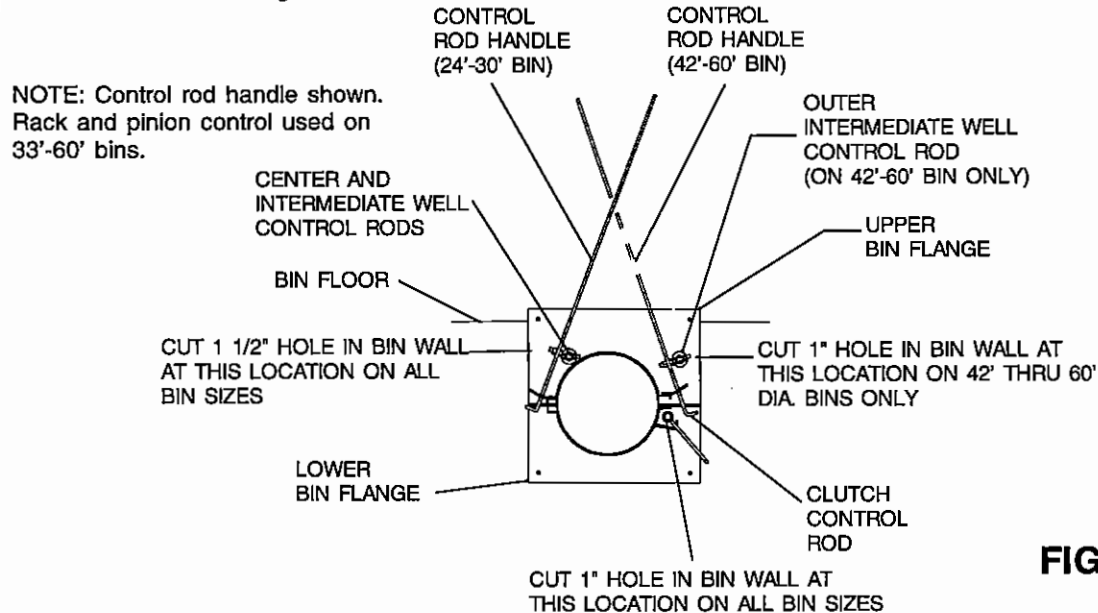
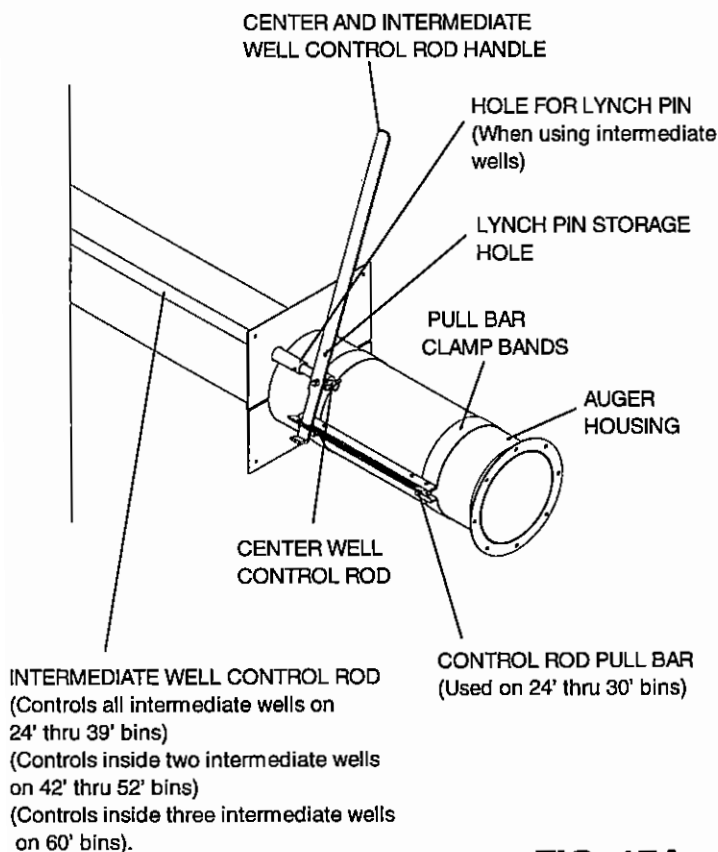
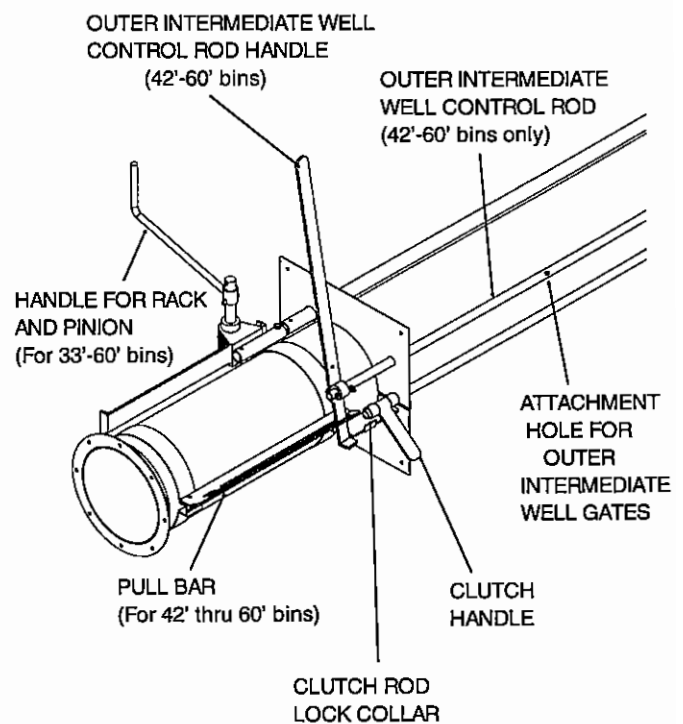

FIG. 10
FIG. 17A
FIG. 17B
For all sizes cut a 1" hole for the clutch control located lower right. Use the bin flange to locate these holes. See Fig. 10.
8. Install control rod handle and pull bar assembly onto the unloading tube. (See Fig. 17A & 17B.) Also reference Fig. 10 on page 14 and Fig. 3 on page 8.
A. Attach control rod pull bar to the unloading auger housing using 10" x 2" wide half bands and 5/16" x 1 1/2" bolts and hex nuts. See Fig. 17A. On 24' thru 30' bins, there is a pull bar on the left side and on 42' thru 60' bins, there is a pull bar on the right side. See Fig. 17B. Insert bolts up from bottom and install nuts on top. The bands may need to be rotated slightly on the housing to provide clearance between half band bolt heads and clutch handle. Refer to Fig. 3 for approximate location of half band from end of unloading auger housing. Note that this dimension varies depending on bin diameter.
B. Install the control rod handle by inserting the bent end through the notched slot in the pull bar and then sliding the pivot tube of the handle over the 7/8" O.D. center well control rod. Secure pivot tube to the control rod by placing a 5/16" x 1 1/2" bolt with lock nut in the holes in the end of the rod on each side of the pivot tube. NOTE: Bent end of handle should point away from unloading auger housing. This prevents the handle from coming out of the pull bar slot. See Fig. 17A.
D. On 33' thru 60' bins, install the rack and pinion assembly as shown in Fig. 17B using 10" x 2" wide half bands.